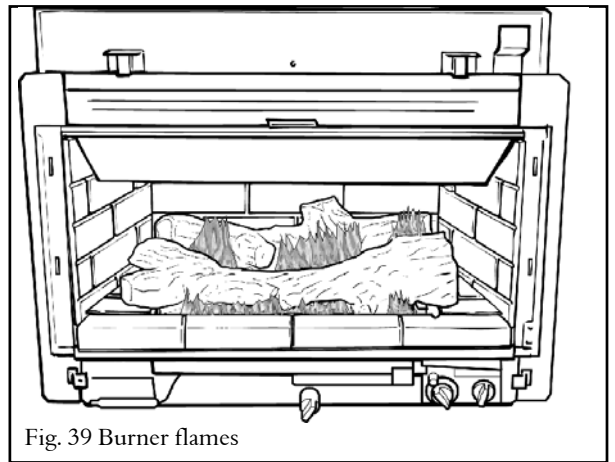

Fig. 39 Burner flames
- 8.3.1 A periodic check of the pilot and burner flames should be made. Check after the fire has been on for at least 30 minutes. The pilot flame must cover the tip of the thermocouple probe. The main burner flame pattern will vary from appliance to appliance depending on the type of installation and climatic conditions. See figures 39 & 40.